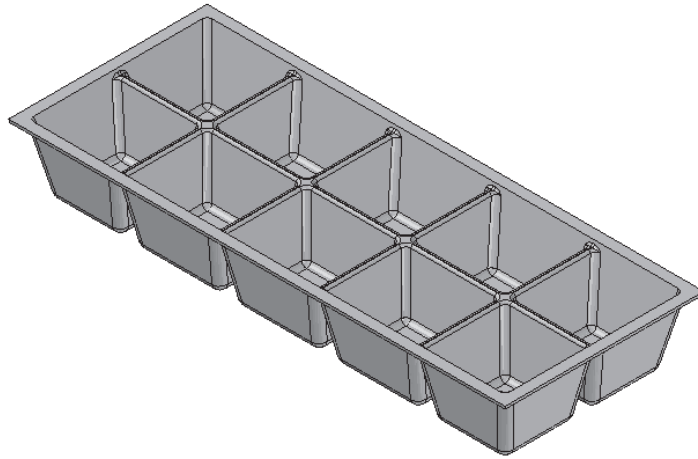

Figure 8-73 Final model of the ice tray
- f. Add another thin wall feature, refer to Figure 8-73.
4. Choose **Preview** and then the **Finish** button to create the thin wall feature. The final model of the ice tray, after creating the thin wall feature, is shown in Figure 8-73.